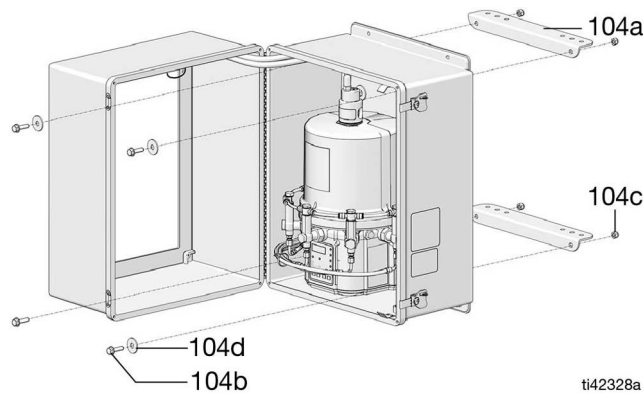

FIG. 3
5. Mount the remaining brackets(104a) to the G5 In A Box, through the inside of the enclosure, using M8-1.25x30 bolts (104b), and M8-1.25 lock nuts (104C), and fender washers (104d) and torque to 200 in-lb (22.6 N•m) (FIG. 3).